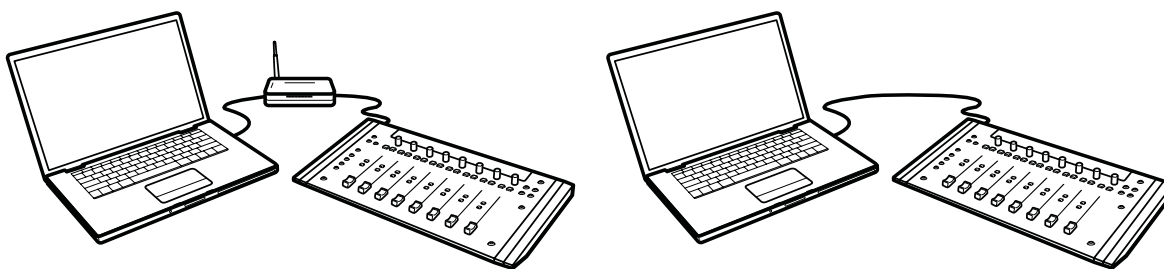

Figure 2-9 MC Mix connected to router (left) and directly to computer (right)
6. Plug the other end of the Ethernet crossover cable into an open Ethernet jack on your computer, router, or Ethernet switch (Figure 2-9).
An Ethernet router or switch is required to connect additional MC Mix units or to a local area network. Note that connecting directly to the computer (Figure 2-9-right) may require removing your Internet cable.